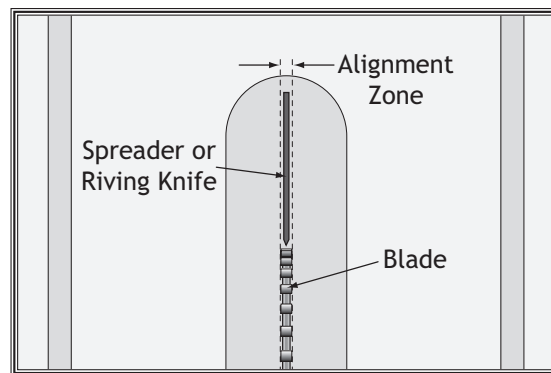

Figure 32. Spreader/riving knife alignment zone.
5. Place a straightedge against the blade and the spreader. When properly aligned, the spreader/ riving knife will be parallel with the blade and in the "Alignment Zone," shown in **Figure 32**.